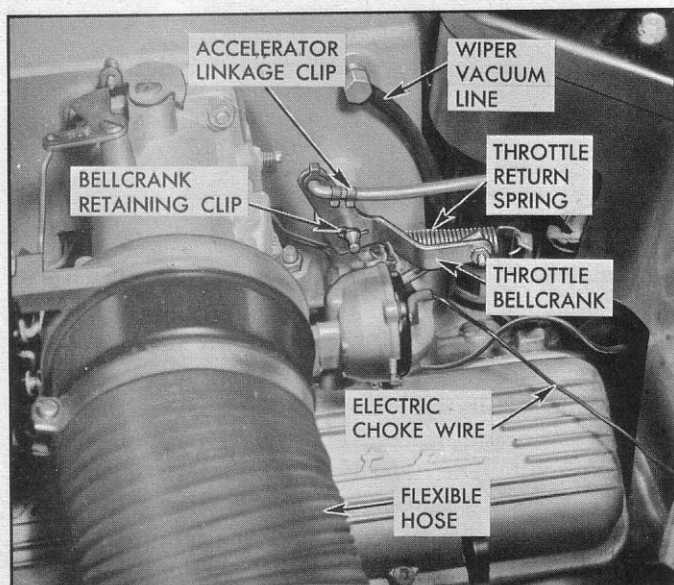

Fig. 82—Installing Fuel Injection Assembly
5. Connect wiper vacuum line, accelerator linkage to throttle bellcrank (fig. 82) and lead wire to electric choke.